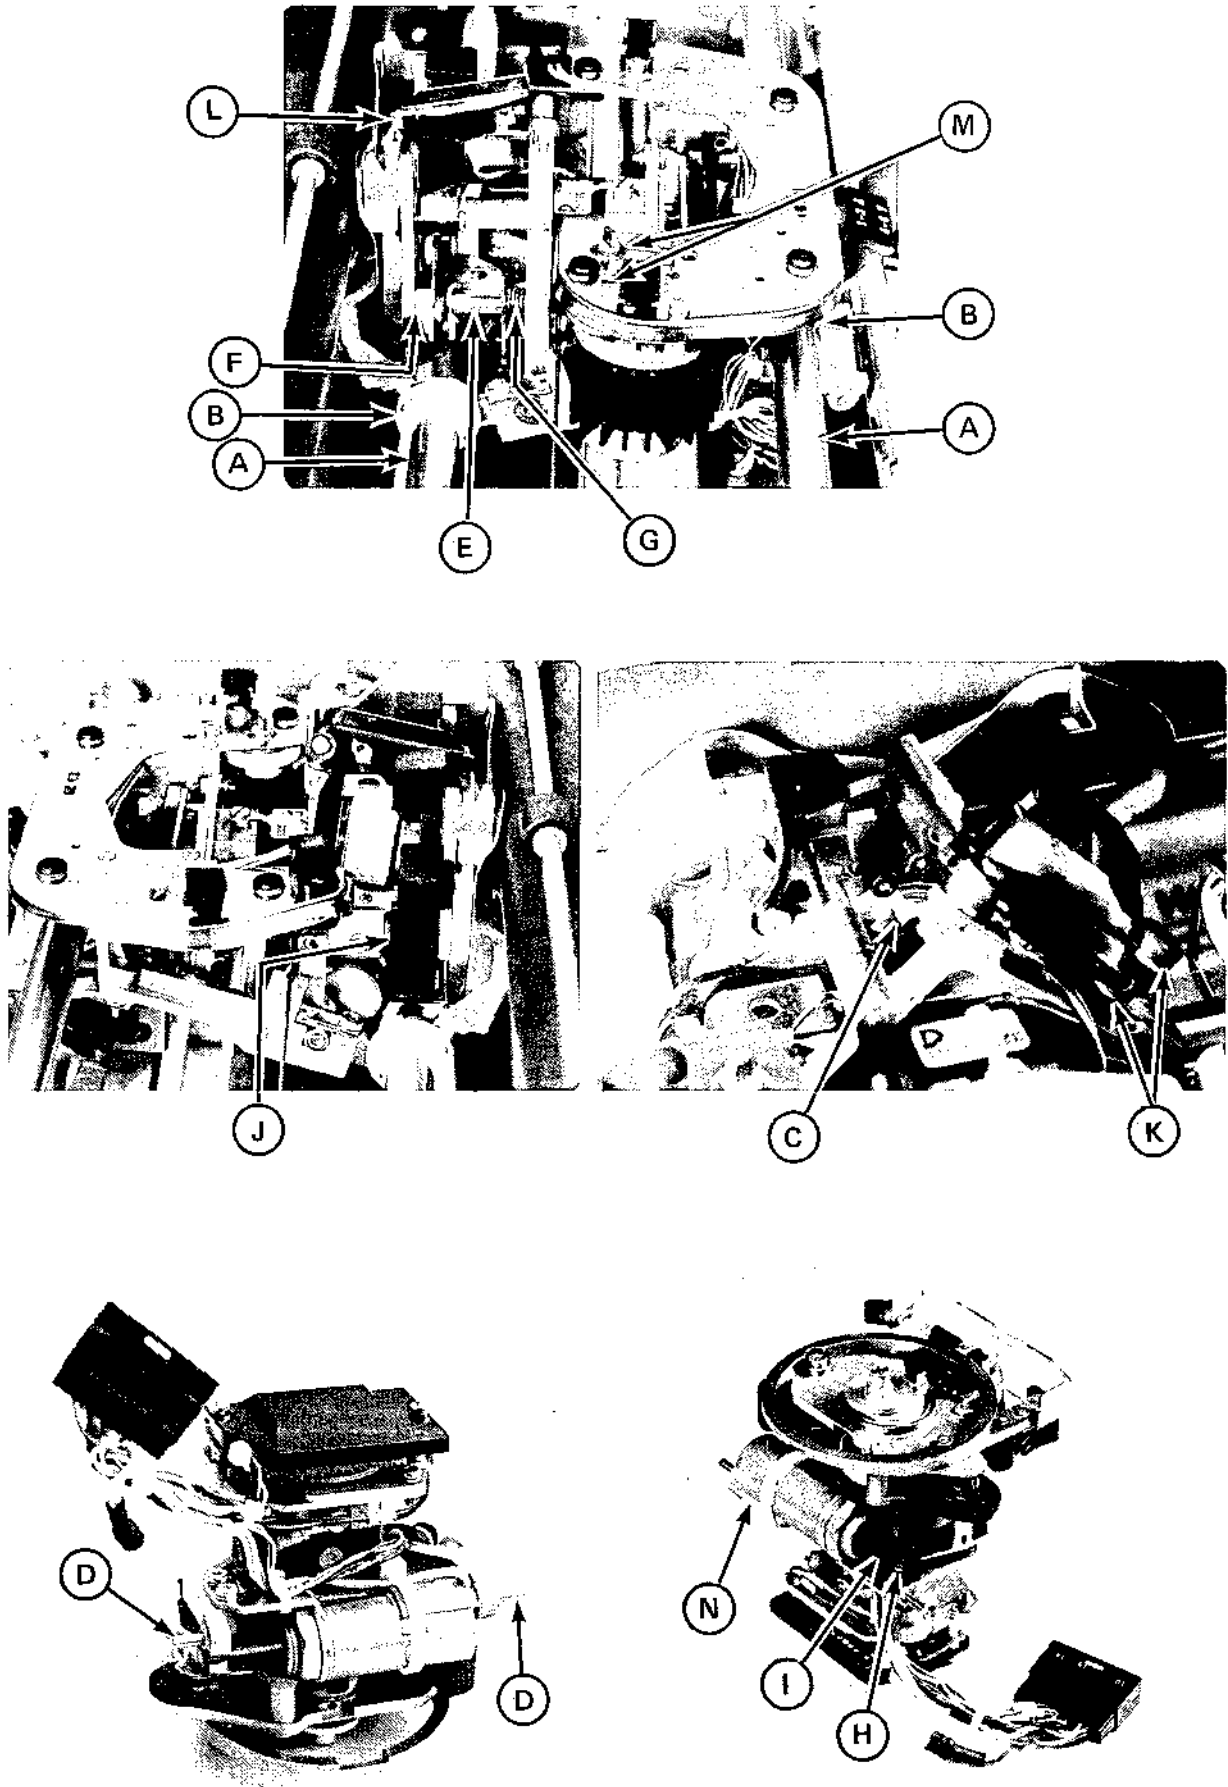

Figure 2-3. ECS CARRIAGE SYSTEM LUBRICATION POINTS
Refer to Figure 2-3.
1. Carriage Rails (A - Fig. 2-3) - Clean the rails with alcohol pads; then wipe dry.
2. Carriage Rail Bearings (B - Fig. 2-3) - Put 4 to 5 drops of light oil on each rail on each side of the carriage. Move the carriage back and forth slowly by hand, allowing the oil to saturate the lubrication felts inside each carriage bearing. (A properly lubricated bearing will leave a light film of oil on the carriage rail as the carriage is moved.)
3. Primary Slider (C - Fig. 2-3) - Apply silicone lubricant to the inside edges of the slot in the primary slider where it is contacted by the peg on the double crank.
4. Pivot Pins (D - Fig. 2-3) - Apply multipurpose grease to each of the two pivot pins before the pivot bushings are installed on the pins.
5. Bell Crank Pivot Shaft (E - Fig. 2-3) - Apply a film of multipurpose grease to the length of the shaft in contact before assembling each part on the shaft.
6. Steel Washer (F - Fig. 2-3) - Apply a film of multipurpose grease between the steel washer and the double crank during reassembly.
7. Bell Crank Return Spring (G - Fig. 2-3) - Press a light film of multipurpose grease between the coils of the spring. Apply a dab of multipurpose grease at one end of the spring where it contacts the bell crank, and at the other end where the spring contacts the pivot frame.
8. Bell Crank Arm (H - Fig. 2-3) - Apply a dab of multipurpose grease to the tip of the arm where it contacts the solenoid plunger.
9. Solenoid Plunger (I - Fig. 2-3) - The shaft of the plunger must be completely clean of any lubricant to ensure free movement of the plunger within the solenoid. (There will be a small amount of grease inside the notch of the plunger where it is contacted by the tip of the bell crank arm - H.)
10. Latch Pivot Shaft (J - Fig. 2-3) - Apply multipurpose grease to the pivot shaft before the latch lever is installed on the shaft.
11. Hammer Armature Pivots (K - Fig. 2-3) - Remove the two rubber caps covering the grease chambers, and fill the caps 1/4 to 1/2 full with Polyoil. Replace the rubber caps.
12. Print Hammer (L - Fig. 2-3) - DO NOT lubricate the print hammer. If a cloth ribbon is being used, make sure the hammer is clean.
13. Ribbon Drive System (M - Fig. 2-3) - Apply one drop of light oil to the idler gear shaft and to the bushing around the base of the drive key.
14. Solenoid Seat (N - Fig. 2-3) - When the solenoid is being installed, apply a layer of thermal compound on the seat that cradles the solenoid in the pivot assembly. This is critical to prevent overheating of the solenoid.